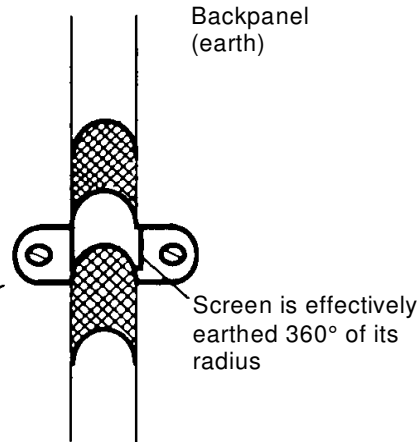

Fig 2.5 Backpanel connection
- The shields of cables inside the cabinet must be 360° clamped to the cabinet wall (see Fig 2.5).